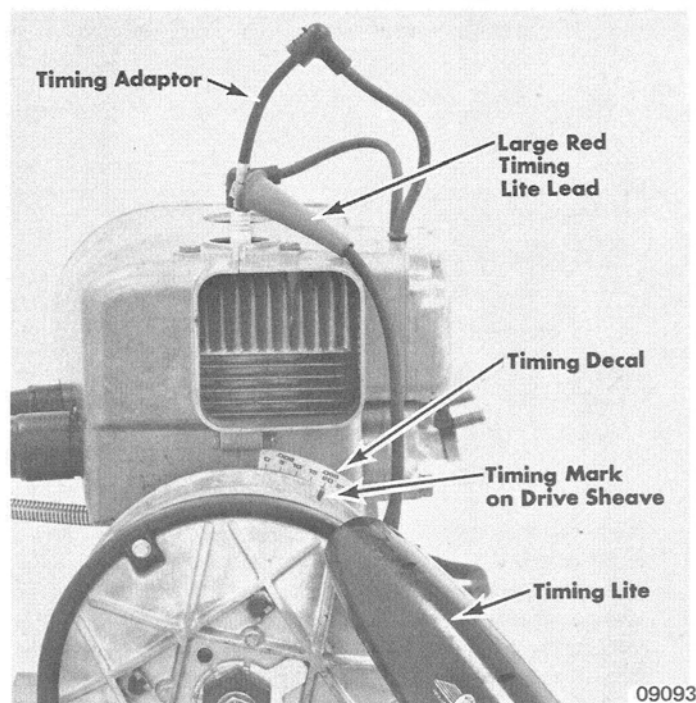

Figure 2. Checking Ignition Timing
- a. Insert timing adaptor (Figure 2) between No. 1 (PTO side) spark plug and No. 1 spark plug wire.
- b. Connect large red timing lite lead to timing adaptor. (Figure 2)
10. Aim timing lite at timing decal and timing mark on fixed face of drive sheave. (Figure 2)
11. With engine running at 2500 RPM, timing mark on drive sheave should be opposite 20° (BTDC) mark on timing decal. (Figure 2)